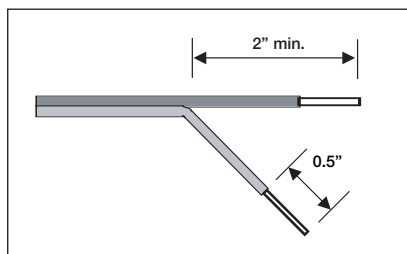

Figure 16 Wire Stripping Details.
3. Separate the loudspeaker end of the two-conductor speaker-wire run to free at least 2" of each conductor. Strip 1/2" of insulation from the end of each conductor. (**See Figure 16**).